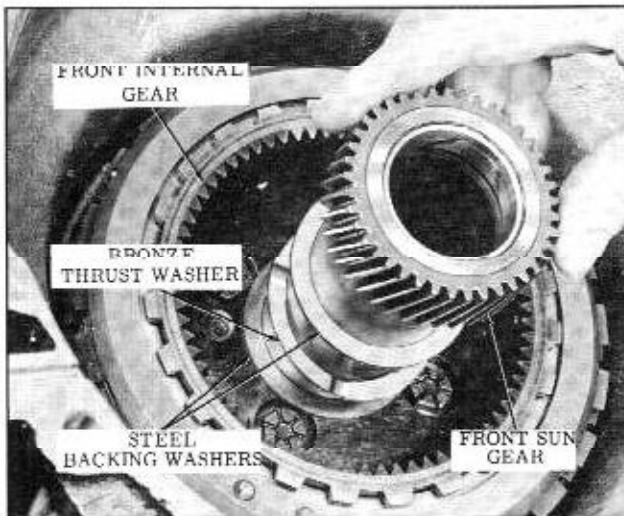

Fig. 3-98 Sun Gear Washers
13. Install steel backing washer, bronze thrust washer, steel backing washer and sun gear on front sun gear shaft. (Fig. 3-98)